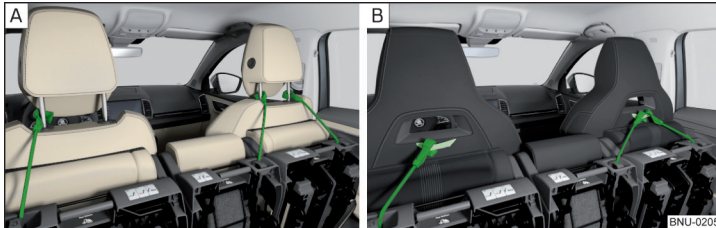

Fig. 92 Fold up the upholstered seats
- › Fold up the upholstered seats with the fastening strap on the headrest guide bar » Fig. 92 - [A].
- › For seats with an integrated head restraint, fasten the strap to the loop at the back of the seat backrest » Fig. 92 - [B].